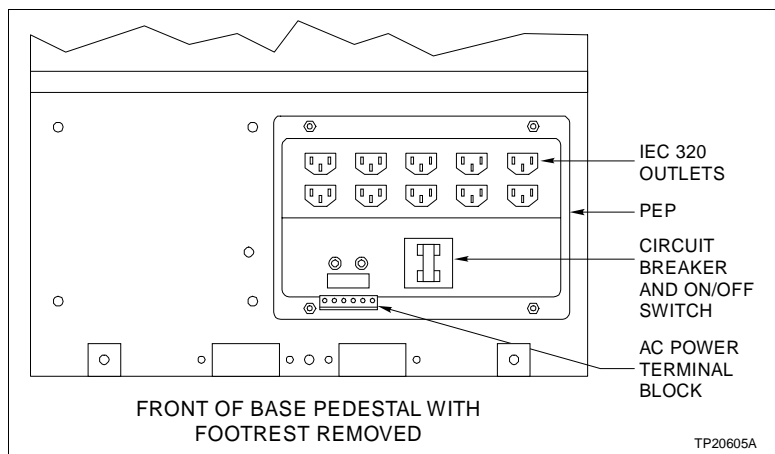

Figure PR41-1. Power Entry Panel (PEP)
- 2. Label and remove all cables from the IEC 320 outlets on the PEP (Fig. PR41-1).